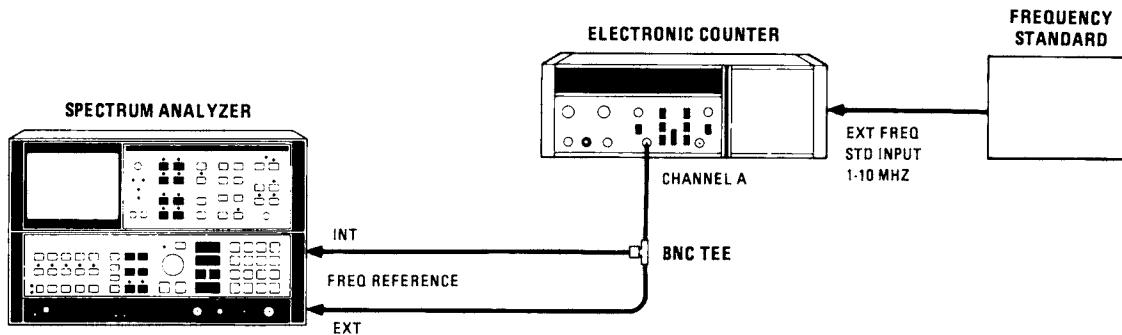

Figure 4-1. Frequency Reference Test Setup
2. Connect equipment as shown in Figure 4-1.